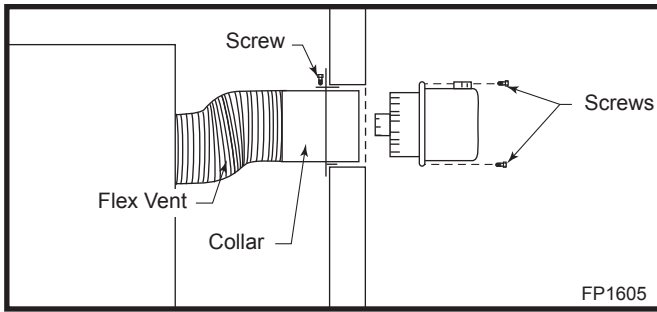

Fig. 19 Secure collar in place, slide termination into collar.
8. While pushing the unit in place, slide the collar through the firestop. **NOTE:** It may be necessary to trim some material off of the collar. The collar is made long to accommodate brick finished houses. (Fig. 19)
10. Slide the termination into the collar and secure with the 4 screws provided. (Fig. 19)